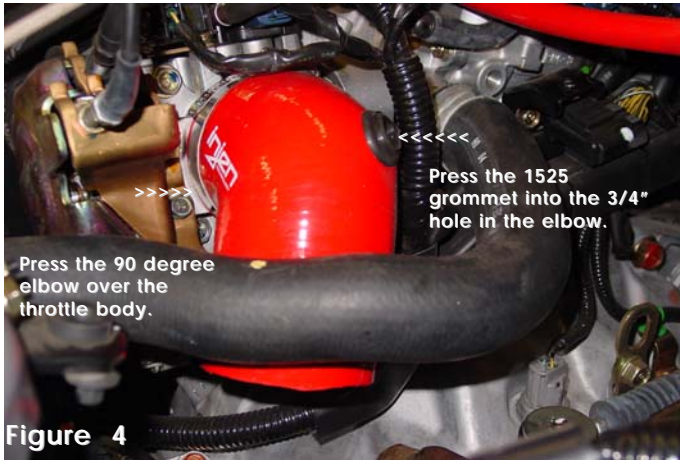

Figure 4
5. Take the 90 degree elbow and the 1525 grommet. Press the grommet into the 3/4" hole in the elbow. Press the 90 degree elbow over the throttle body and use a small clamp to secure the elbow. (See fig. 4)